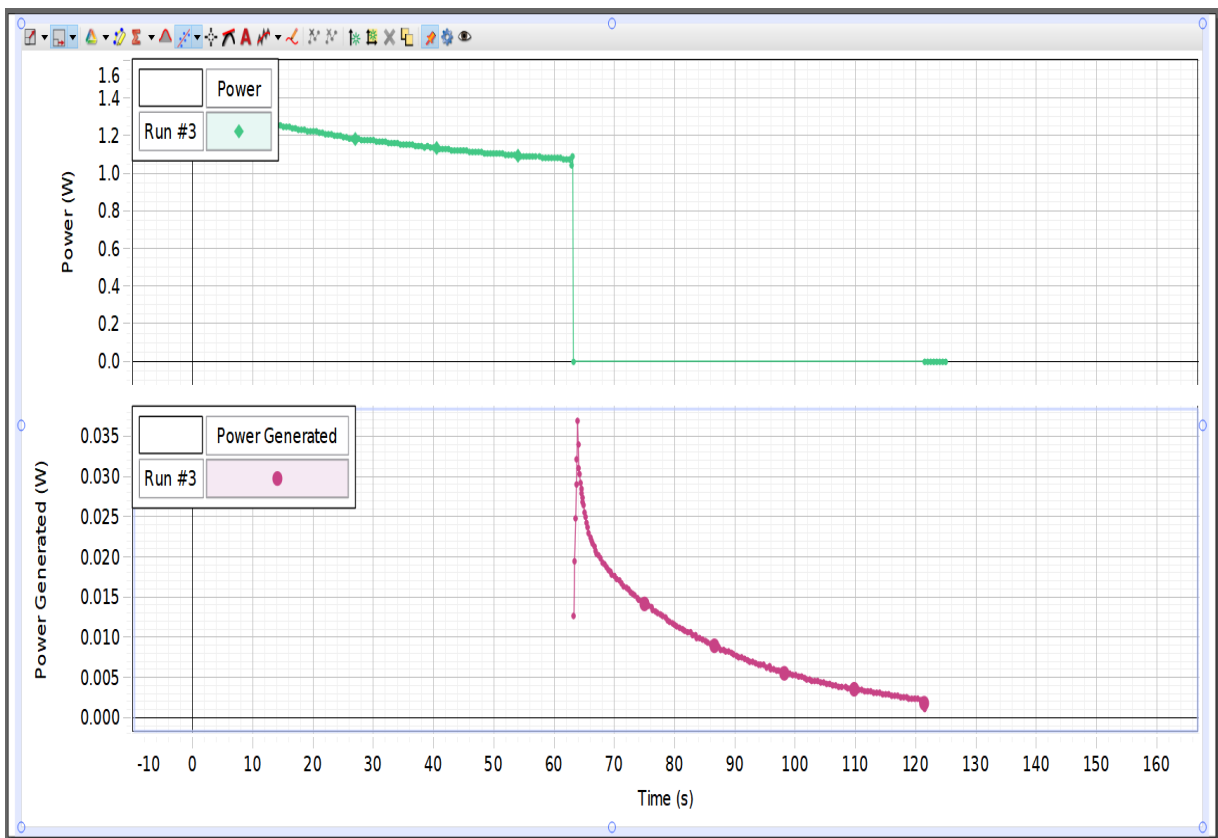

Figure 4: power, Temperature vs time graph
- From figure 4 the maximum temperature is 37 and minimum temperature is 18.